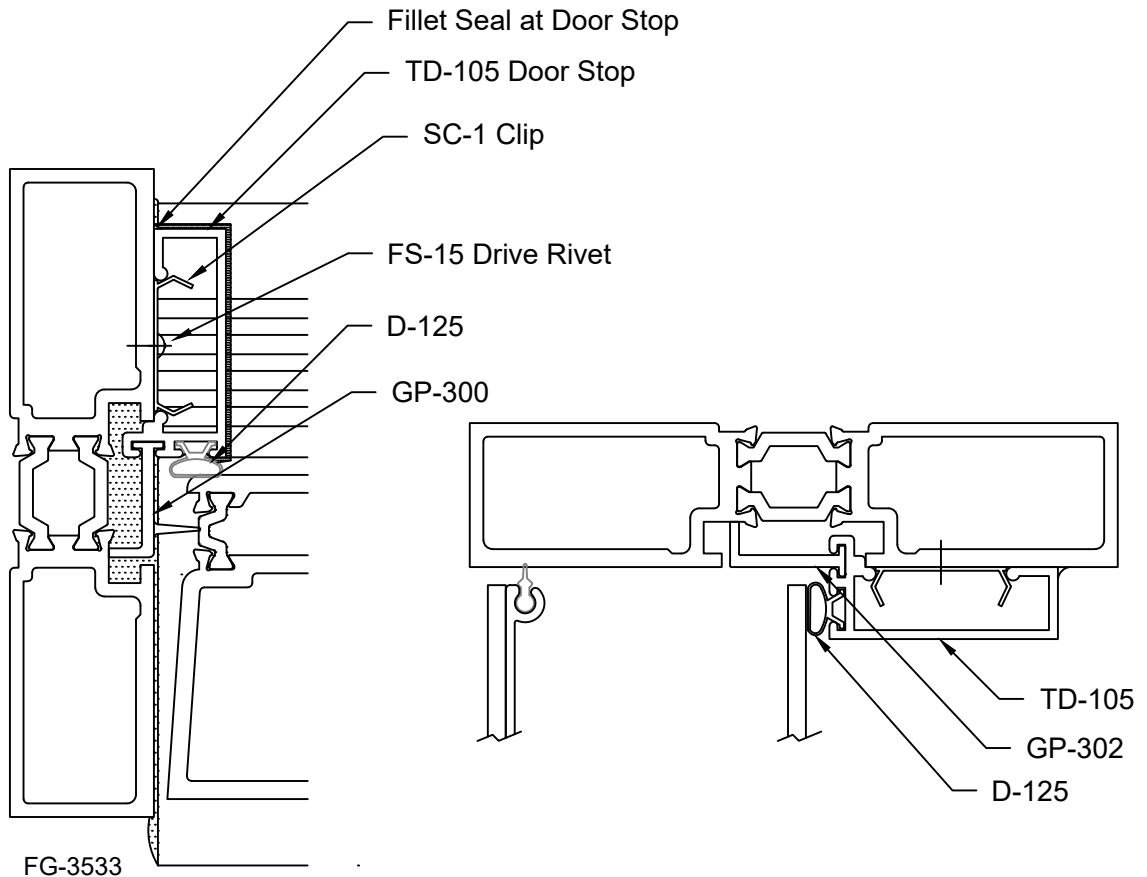

FIGURE 13
4. Door stops to have small bead of sealant applied at back of stop. This seal should be married into seal at threshold and a small bead also applied between vertical and head stops at corner. See FIGURE 13.